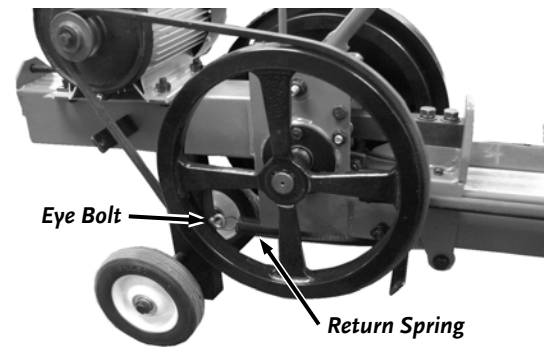

Figure 13
3. Disconnect the Return Spring from the Eye Bolt on the Frame (**Figure 13**).